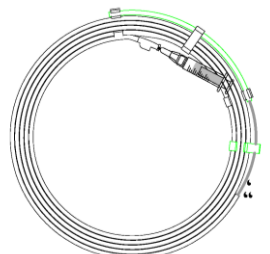

Figure 4. Flush the coiled tube
- Use a 5 ml syringe to flush the coiled tube with saline through flushing connector (Figure 4);